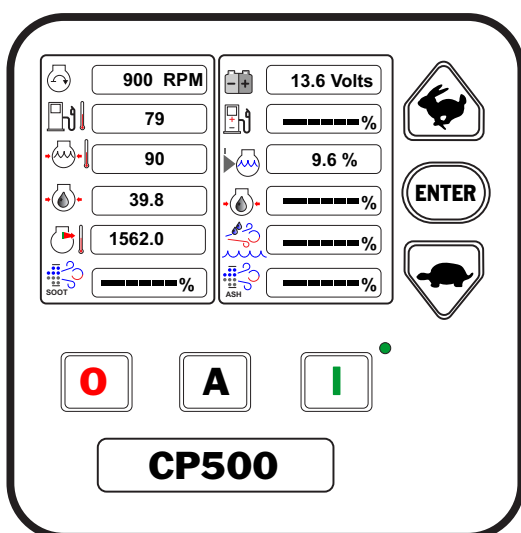

Figure 16. Engine Status 3 (Engine Running)
- Press the **ENTER** button again to advance to the next screen (Figure 16).
- The screen shown in Figure 16 is displaying **ASH** and **SOOT** percentages along with oil temperature, engine speed and other engine operating parameters. Reference Table 6 for an explanation of the various icons displayed on the screen.